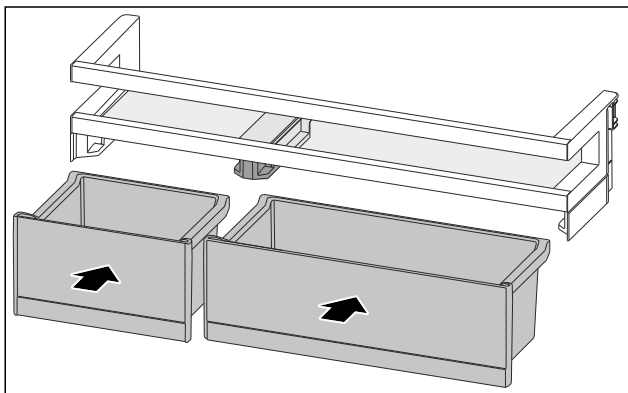

Fig. 110
- ▶ Insert the VarioBoxes in reverse order. (see Fig. 110)